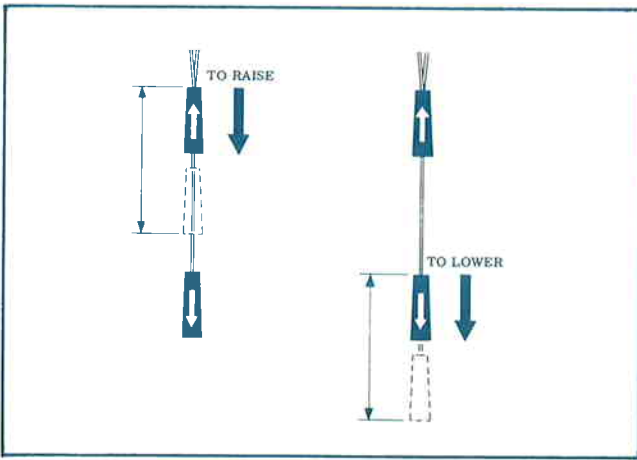

Figure 3-1. Pull Cord Control Handles.
**3-1. GENERAL.** Operation of YALE Air Hoists is controlled by either pull cords or a pendant throttle control, depending upon the model. Pull Cord Control models have pull type control cords (Figure 3-1) suspended from a rocker type lever at bottom of hoist that actuates the throttle control valve. Pendant Throttle Control models have a convenient lever type control valve handle (Figure 3-2) suspended from control cylinders on sides of control head housing.